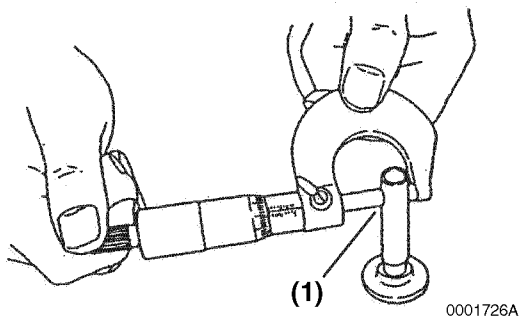

Figure 6-118
2. Measure the outside diameter of the tappet stem (Figure 6-118, (1)). See Tappet on page 6-23 for the service limit.